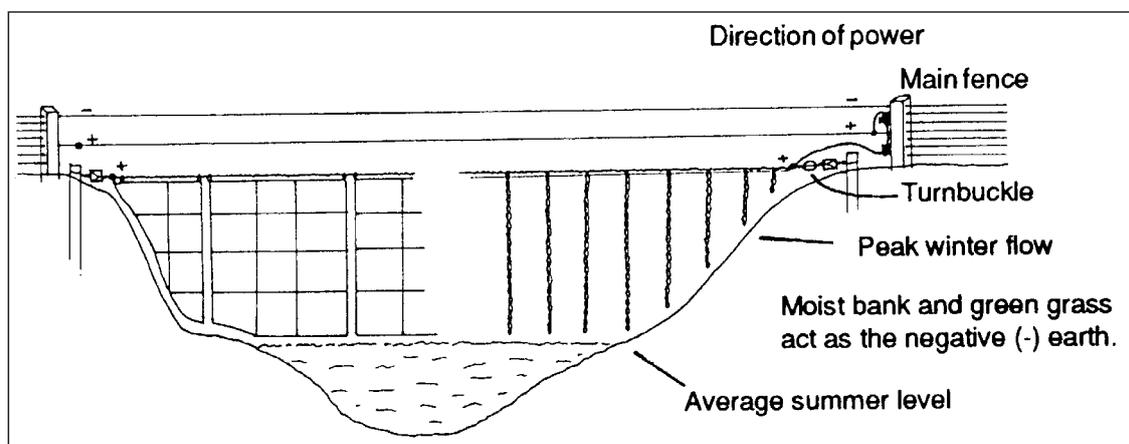

Fig. 1
**Permanent fixture (Fig. 1)** - suited to deep, narrow crossings, especially tributaries